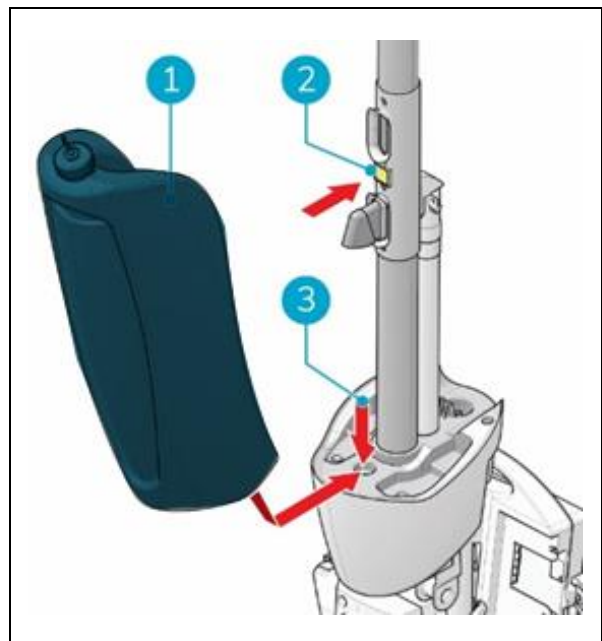

Figure 13
1. Put the bottom of the recovery tank (Figure 13, pos 1 and pos 3) on the front of the i-mop® XXL.
2. Push the top of the tank into place until you hear a 'click' sound, the magnet (Figure 13, pos 2) will lock the recovery tank into place.